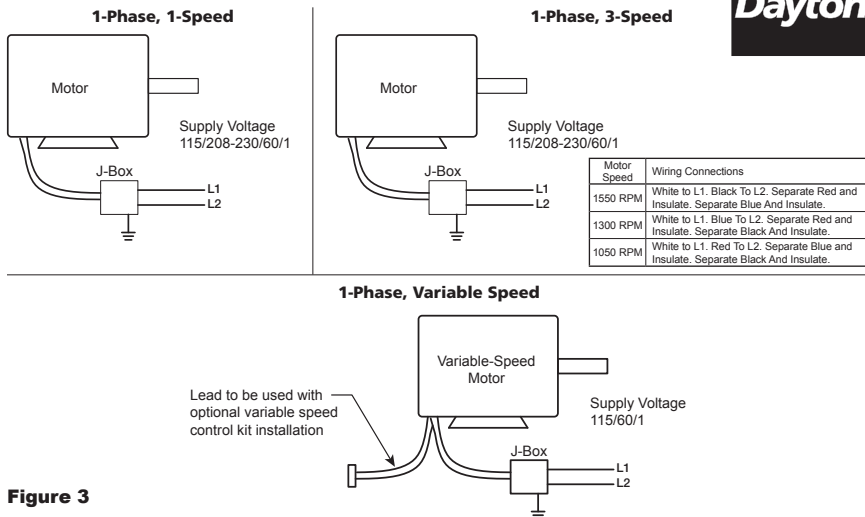

Figure 3
- 1. Refer to Figure 3 and motor nameplate for wiring procedures. Motor and blower must be securely grounded (bare metal) to a suitable electric ground, such as a grounded water pipe or ground wire system.